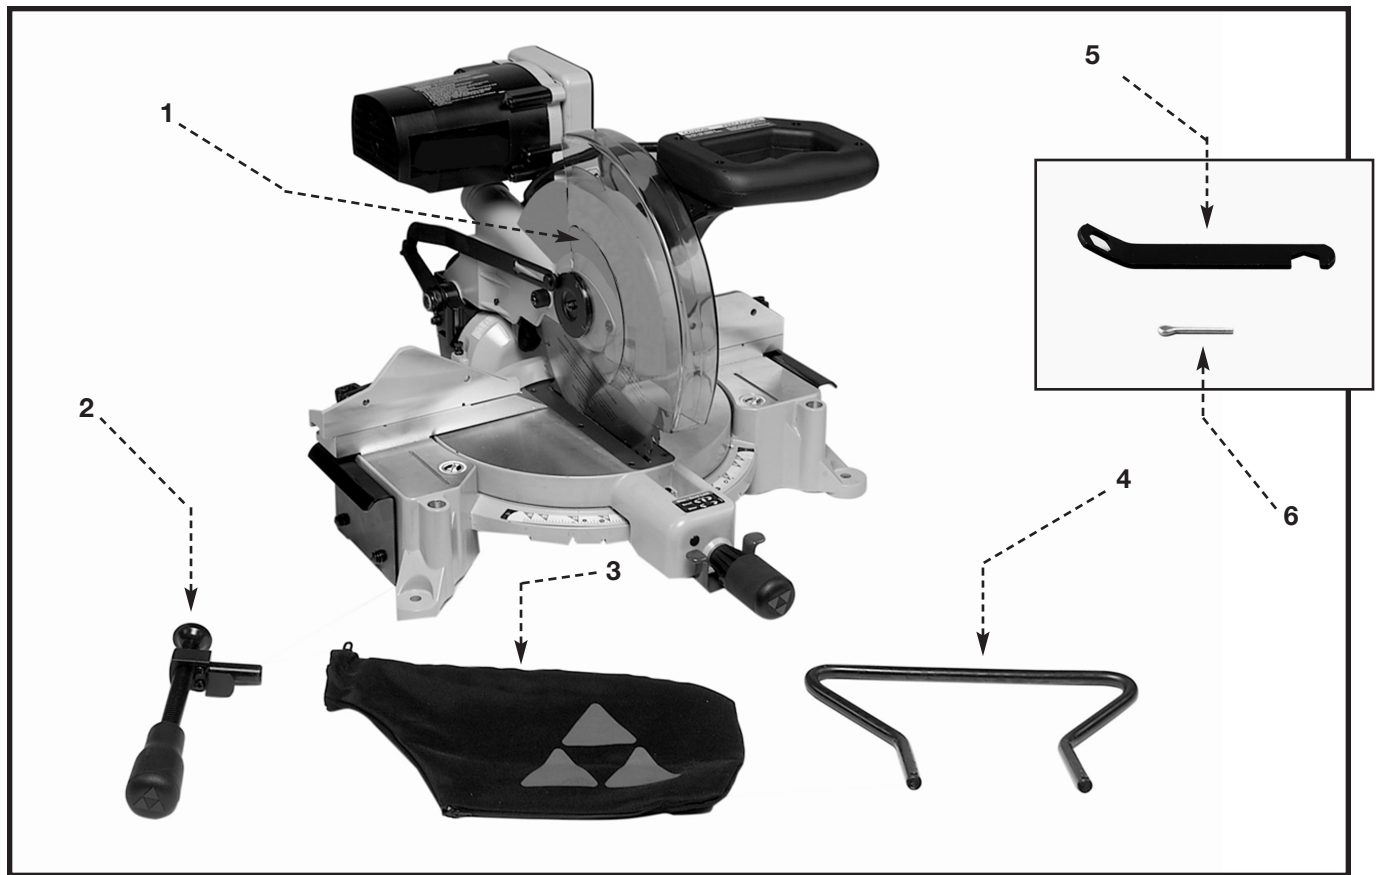

Fig. 2
Lifting the miter saw by the switch handle can cause misalignment. Always lift the machine by the base or the carrying handle (4) Fig. 2).